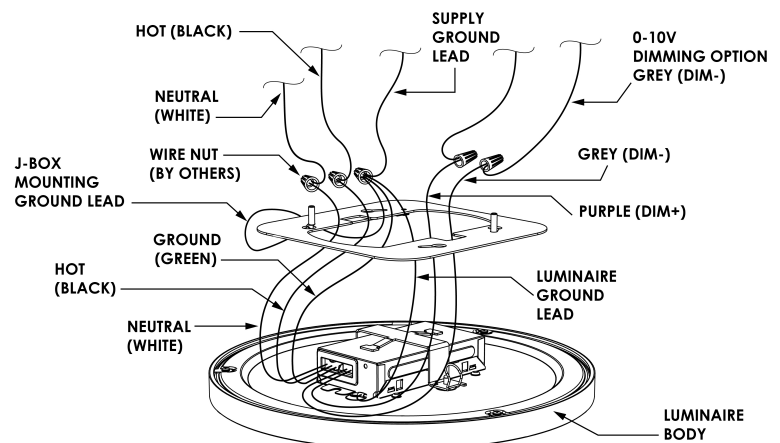

FIG. 2
4. While supporting LUMINAIRE BODY, Make electrical connections: black lead to hot (Black) supply lead; white lead to neutral (White) supply lead. Un-insulated wire(s) and green insulated wire (LUMINAIRE GROUND LEAD, DRIVER GROUND LEAD & J-BOX MOUNTING GROUND LEAD) are grounding wires and all must be connected to the SUPPLY GROUND LEAD (or terminal) in 4-11/16 SQUARE J-BOX. Use WIRE NUTS to make connections. (FIG. 2)